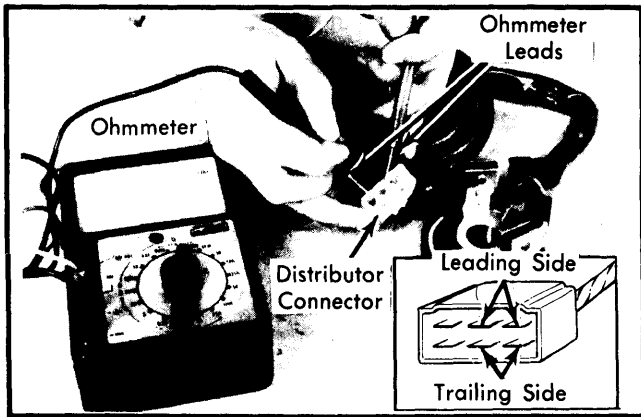

Fig. 4 Ohmmeter Hookup for Pick-Up Coil Resistance Check
1) Set an ohmmeter in the x100 scale. Turn ignition switch "OFF". Disconnect connector between ignitor and distributor. See Fig. 4.